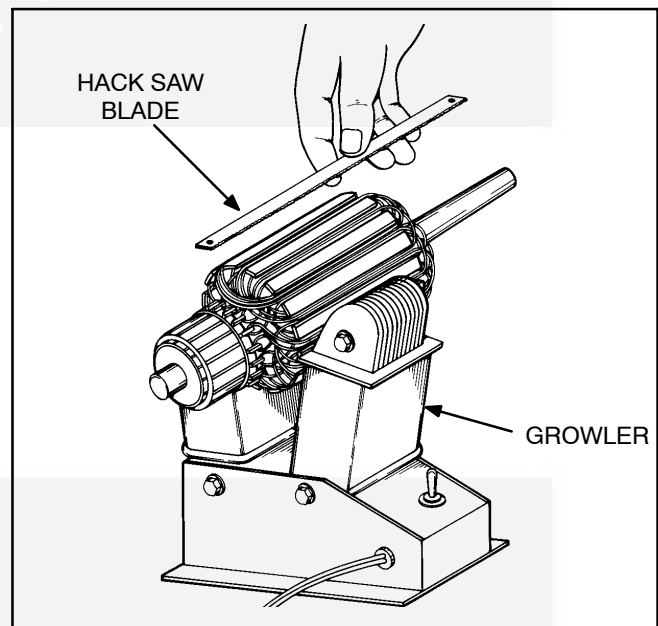

FIGURE 8-31. TESTING ARMATURE FOR SHORTS
**Testing for Shorts:** Use a growler (Figure 8-31) for locating shorts in the armature. Place armature in growler and hold a thin steel blade (e.g. hacksaw blade) parallel to the core and just above the armature while slowly rotating armature in growler. A shorted armature will cause the blade to vibrate and be attracted to the core. Replace a shorted armature with a new part.